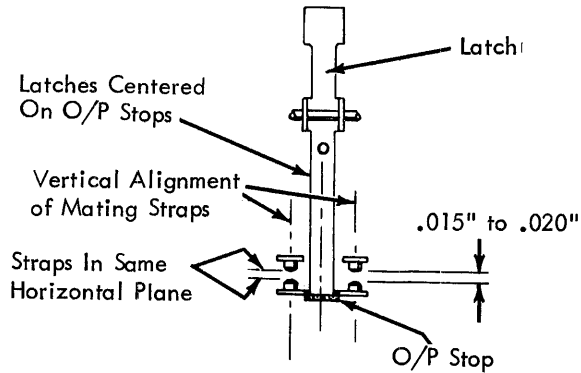
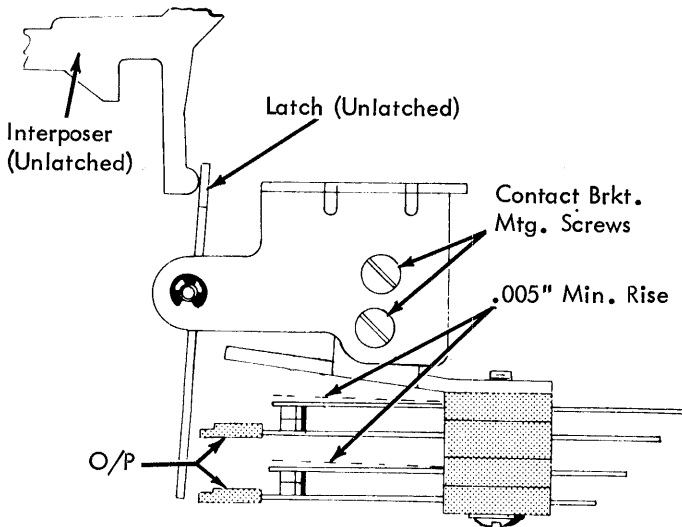

FIGURE 174. Contact Air Gap
FIGURE 175. N/O Contact Rise
1. Contact Strap Position (Fig. 174) - With the contacts latched, position the straps under the two mounting screws for the following conditions:
2. Contact Air Gap (Fig. 174) - Rotate the contact mounting bracket under its four screws for .015" to .020" contact air gap - see Fig. 175 for mounting screws.
3. Normally Open Contact Rise (Fig. 175) - With the contacts unlatched, form the N/O straps for .005" minimum rise.